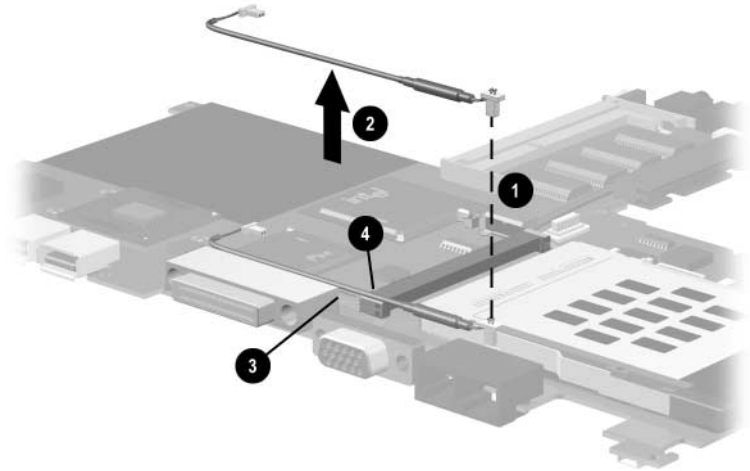

Figure 5-19. Removing the Modem/NIC Cable
3. Disconnect the modem/NIC cable from the system board ❶ (Figure 5-19).
4. Remove the modem/NIC cable ❷.